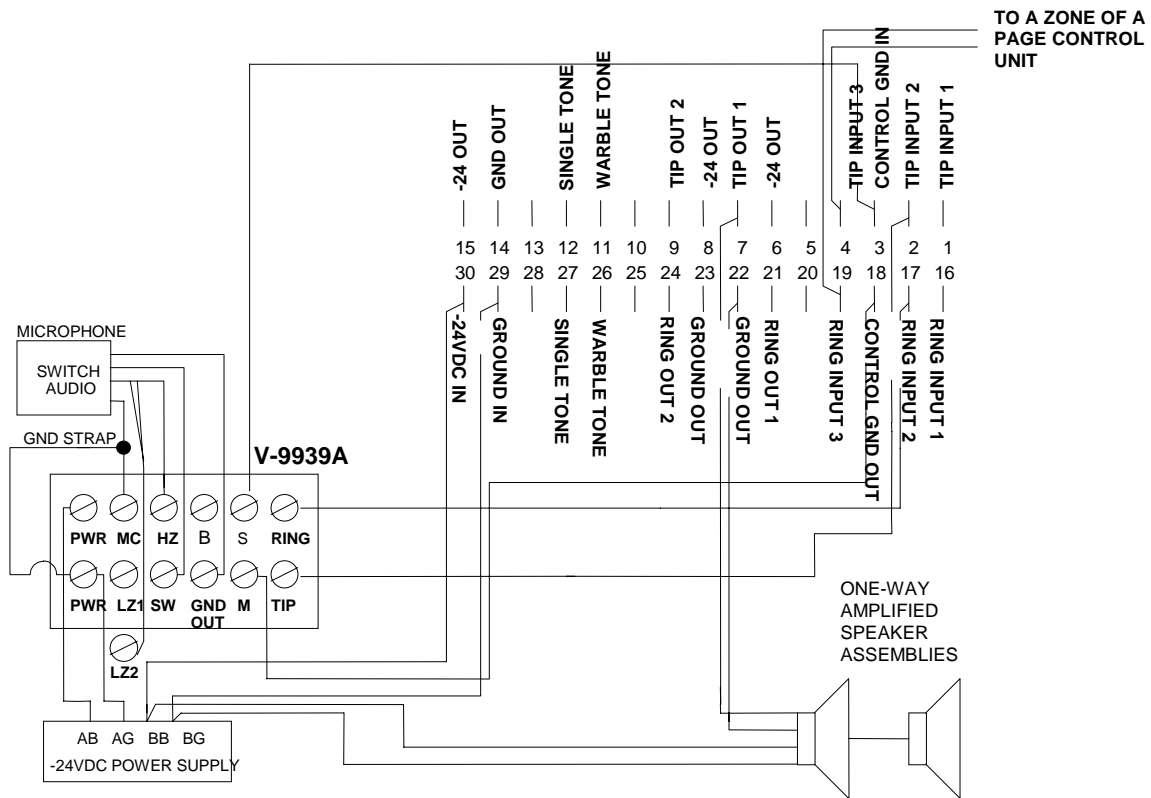

FIGURE 6 - OVERRIDE A SINGLE ZONE WITH A V-9937
- ___3. Override an individual zone using a V-9937: Proceed to Figure 6.
WIRING INSTRUCTIONS (For Figure 6)